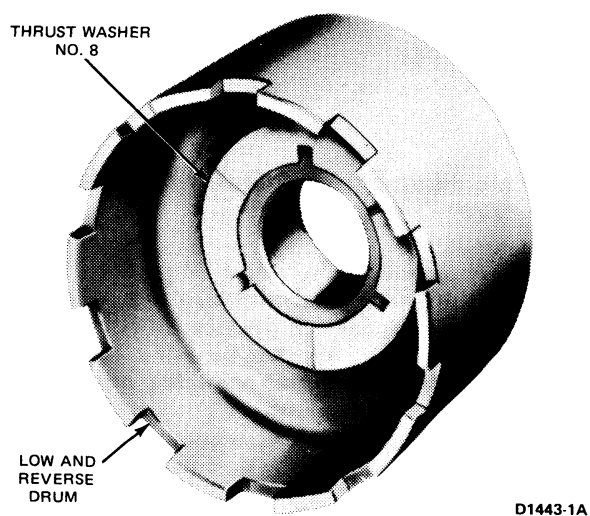

FIG. 39 Number 8 Thrust Washer Location
14. Install thrust washer No. 8 on top of the low and reverse drum (Fig. 39). Install the low-reverse band in the case, with the end of the band for the small strut toward the low-reverse servo (Fig. 27).